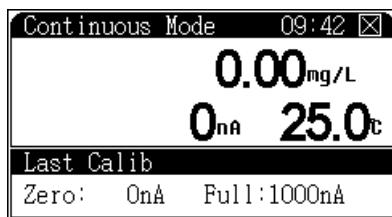

Figure 23 The Measurement Mode display
- 4 Put the probe in the sample solution and press **[Measure]** to start taking a measurement according to the selected mode. See Figure 23. The upper area of the screen shows the current measuring mode and system time. The central area of the screen shows DO data, the corresponding DO current value, and temperature. The bottom area shows the most recent calibration data.